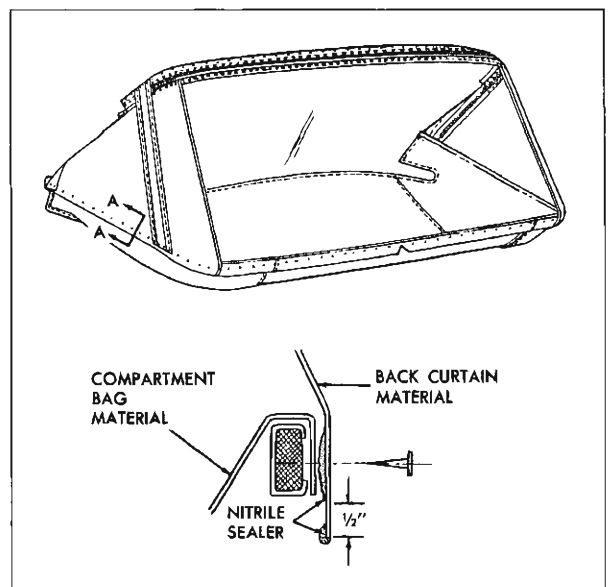

Fig. 21-58 Back Curtain Sealing
lower edge of back curtain material in area which will be tacked to rear and rear quarter trim stick. (See view "A-A" in Fig 21-58).
4. Apply bead of convertible top sealer (nitrile) along lower selvage edge of back curtain material (Fig. 21-58).
7. Tack curtain to rear and rear quarter trim sticks. Turn forward edge of material rearward to form a water barrier (Fig. 21-58).